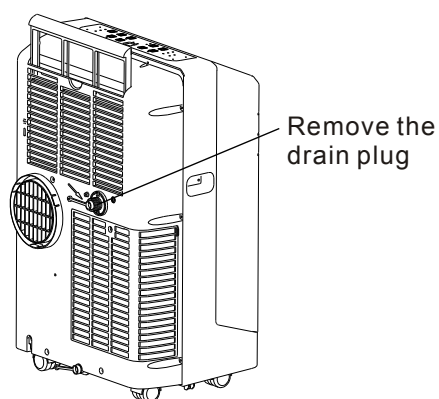

Fig.22
- During dehumidifying modes, remove the drain plug from the back of the unit, install the drain connector(5/8" universal female mender) with 3/4" hose(locally purchased). For the models without drain connector, just attach the drain hose to the hole. Place the open end of the hose directly over the drain area in your basement floor. Please refer to Fig.22 & 23.
- Remove the rubber plug at the back of the unit and attach a hose to drain outlet. Place the open end of the hose directly over a drain or separate container to dispose of later (See Fig.22 & 23).